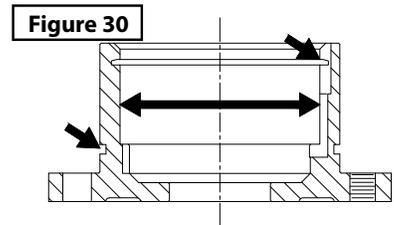

Figure 30
- Check the bearing seat according to the "Table for bearing adjustment and tolerances", replace if values exceed those listed in the table (see Figure 30).